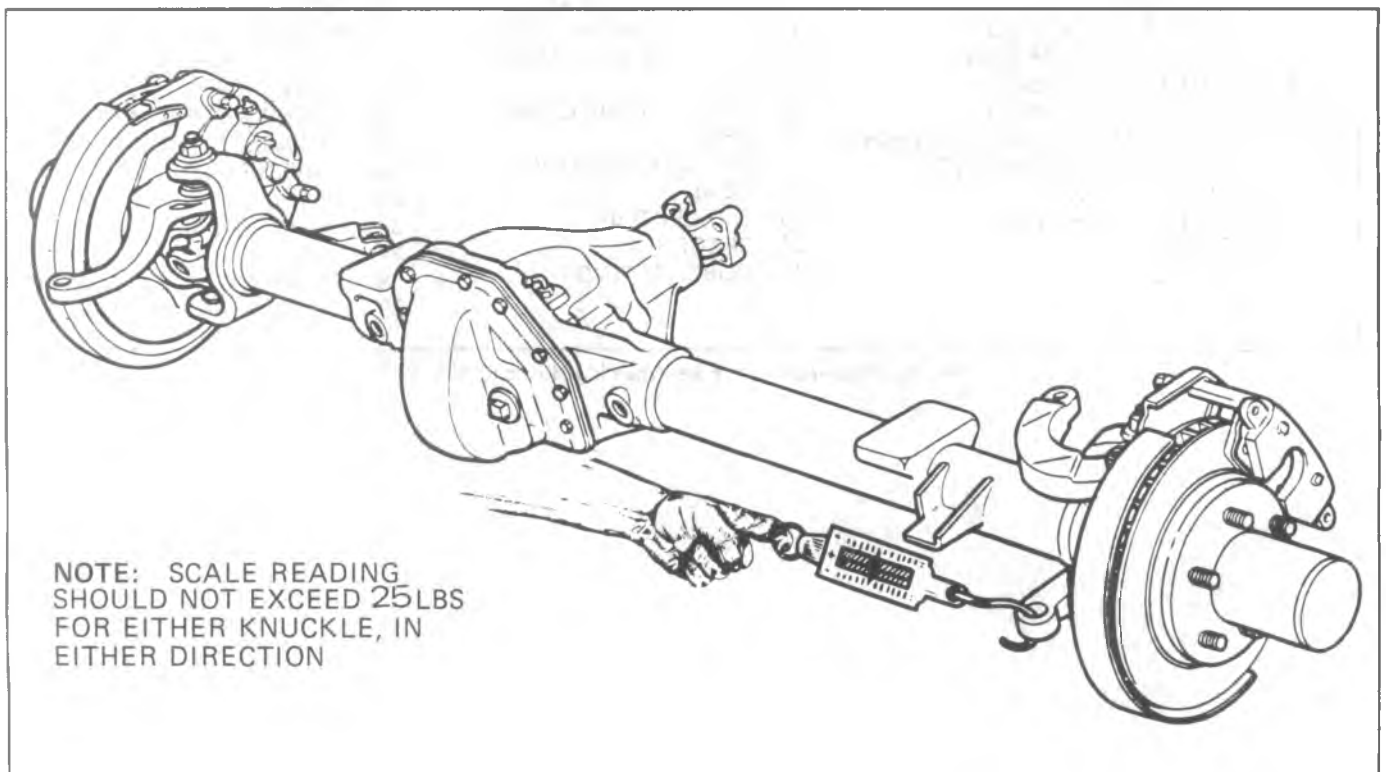

Fig. 3C-2K--Determining Front Axle Ball Joint Adjustment
- a. **For K10 and K20**, assemble the drag sleeve retainer washer over the axle shaft against the bearing adjusting nut (See Fig. 3C-3K). The tang on the inside diameter of this washer is assembled in the keyway of the spindle. Assemble and tighten the outer lock nut to 217-310 N·m (160-205 lb. ft.).
The Automatic Locking Hub, shown in Fig. 3C-3K, engages or disengages to lock the front axle shaft to the hub of the front wheel. Engagement occurs whenever the vehicle is operated in four-wheel drive. Disengagement occurs whenever two-wheel drive has been selected and the vehicle is moved rearward. Disengagement will not occur when the vehicle is moved rearward if four-wheel drive is selected and the hub has already been engaged.